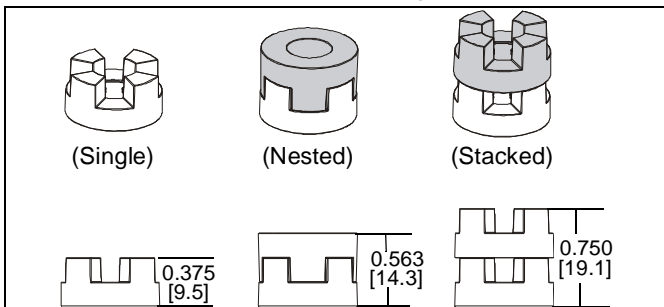

Figure 7
NOTE: The nesting spacers (M) may be used separately, or put two together in different configurations to create different size spacers. (See Figure 7)